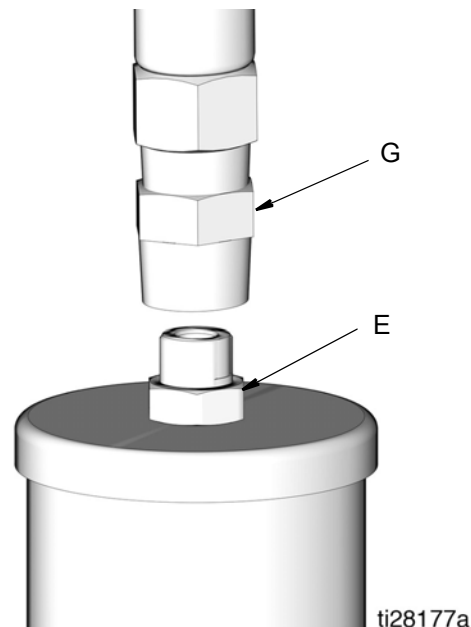

FIG. 7
3. Disconnect the lubricant supply line (G) from the pump outlet (E) (FIG. 7).
5. Run the pump a few strokes until oil, free of air, comes out of the pump outlet (E) (FIG. 7).